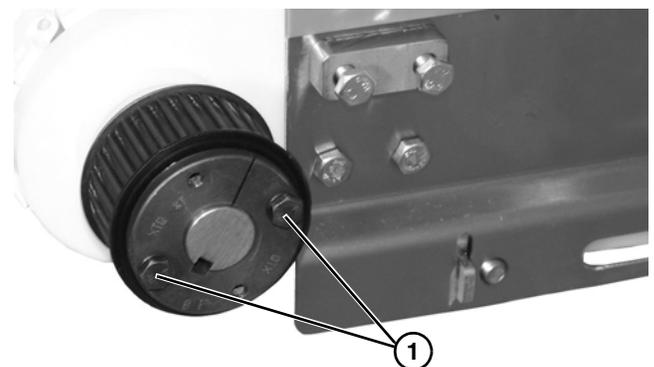

Figure 8
8. Tighten driven pulley taper-lock screws (Figure 8, item 1).